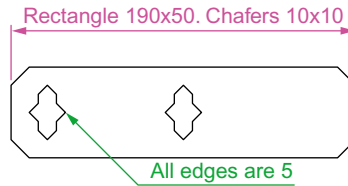

Fig. 5.23 Example – **Move** – drawing
1. Construct the drawing Fig. 5.23.